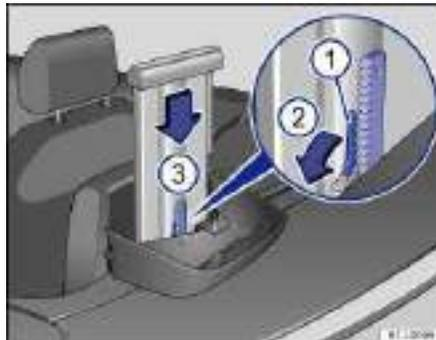

Fig. 174 Deployed rollover protection support behind the rear seat backrest.
- Push the release lever ⇒ fig. 174 (1) in the direction of the arrow (2) and hold it in this position.
- Then, push down the top part of the rollover support down about 11.8 inches (30 cm) (3) and let go of the release lever (1).